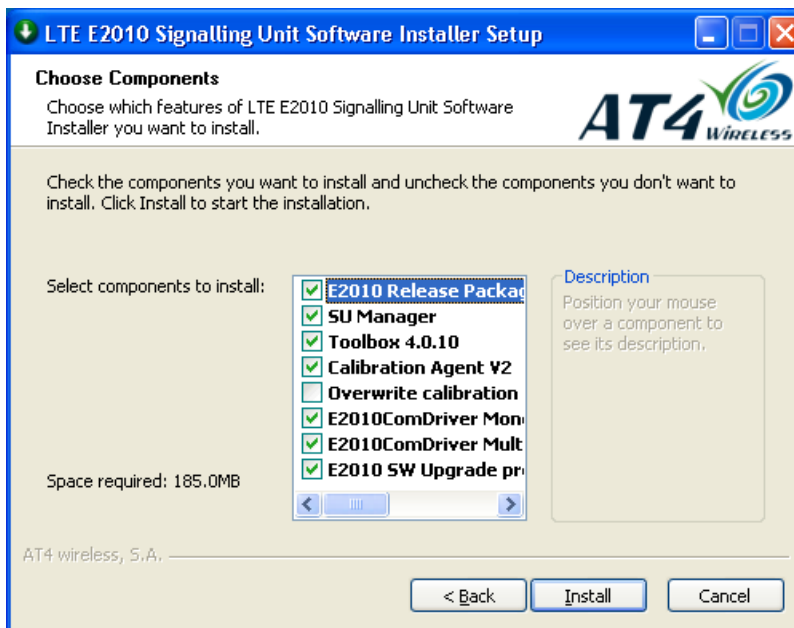

Figure 2-33: Choose Components Window
3. In *Choose Components* window, select all components except **Overwrite calibration**, as shown in Figure 2-33. Click the **Install** button.